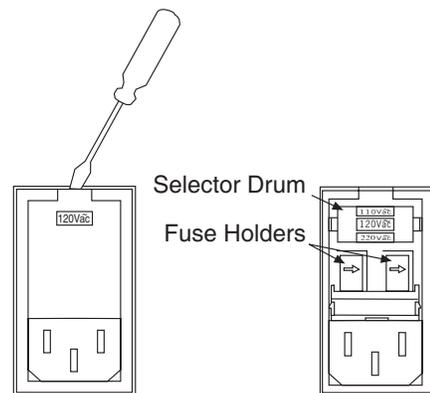

Figure 49. Power Input Module
1. As shown in Figure 49, place the flat side of a flat bladed screwdriver parallel to the back of the Controller and behind the small tab at the top of the power module, and twist the screwdriver slowly but firmly to pop the module open.